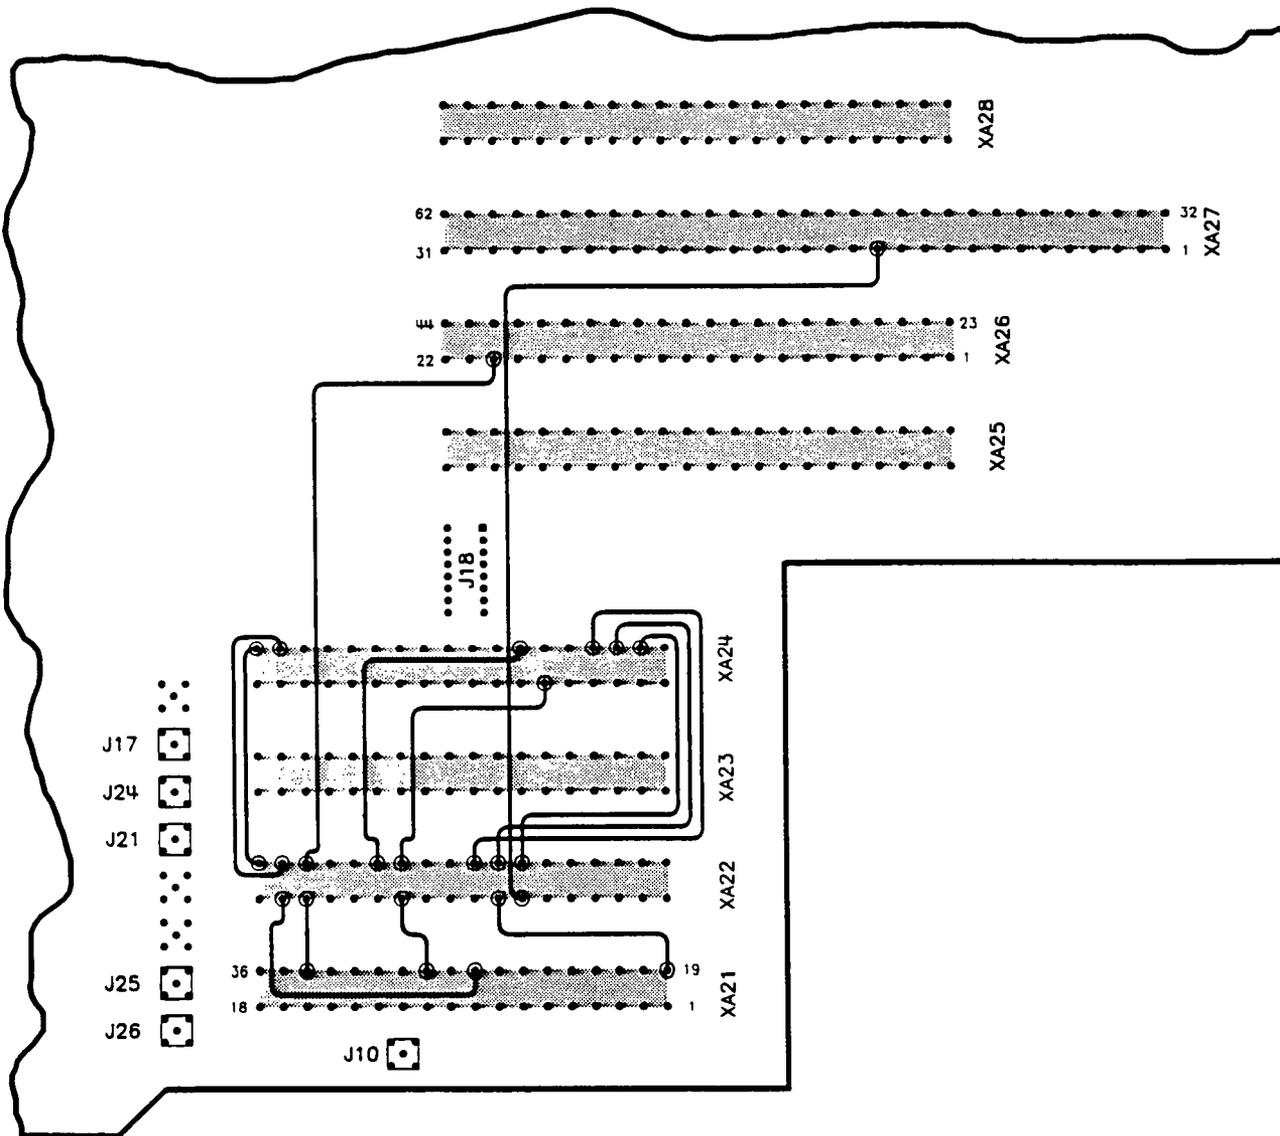

Figure 2. A62 Motherboard Jumper Wire Locations
14. Install SMA connector J21 (provided in this package) in the opening on the motherboard labeled J21. Refer to Figure 2.
18. Refer to Figure 2. Install the following jumper wires: